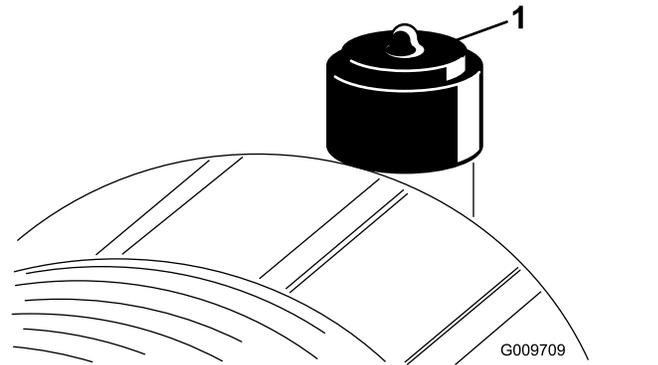

Figure 51
Service the air-cleaner filter only when the service indicator (Figure 51) requires it. Changing the air filter before it is necessary increases the chance of dirt entering the engine when you remove the filter.
2. Reset the indicator (Figure 51) if it shows red.